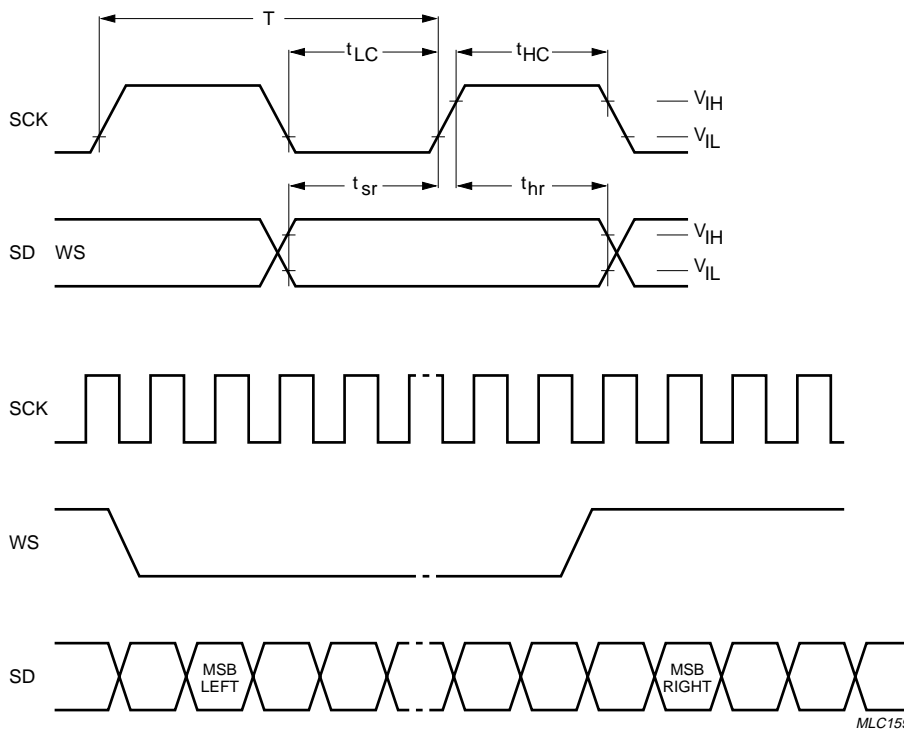

Fig.11 I2S-bus timing format.
The I2S-bus digital interface is used for communication to external digital sources. It is a 3-line serial bus with one line each for data, clock and word select. Figure 11 illustrates an excerpt from the Philips I2S-bus specification interface report with respect to general timing and format of the bus. Word select (WS) at logic 0 signifies the left channel and logic 1 the right channel.